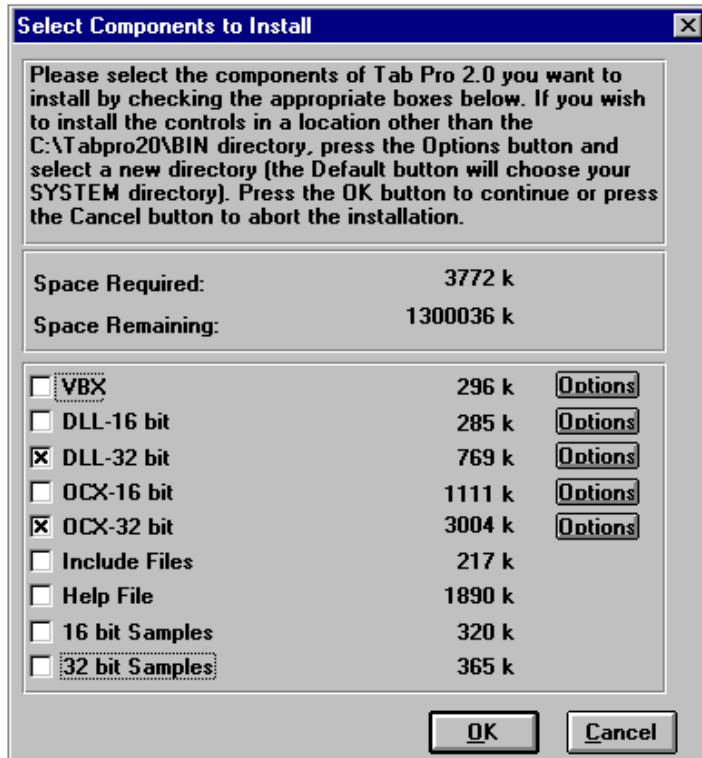

FIGURE 37. TabPro Select Components to Install Dialog
- 8.70 Un-check all selections EXCEPT the 'DLL-32 bit' and 'OCX-32 bit' components on the 'Select Components to Install' dialog as shown in Figure 37.